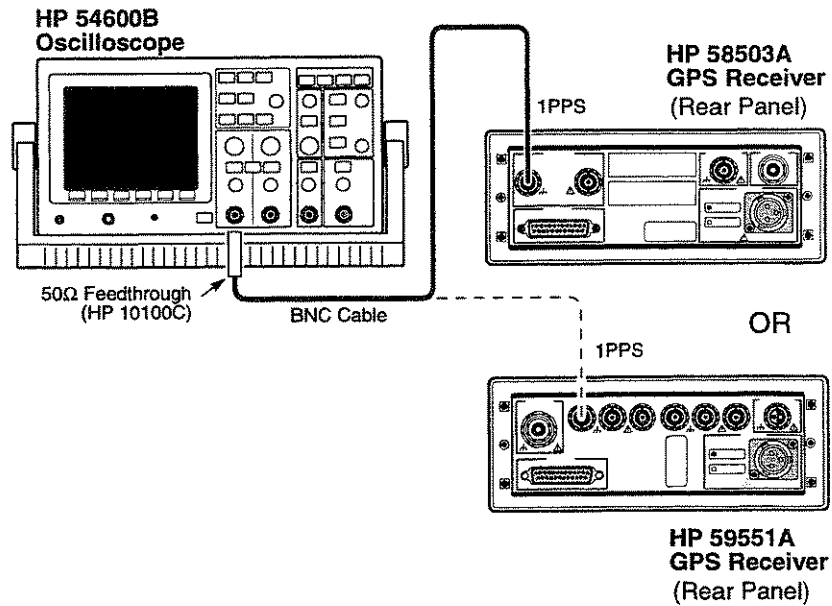

Figure 2. 1 PPS Operational Verification Setup
- 2 Connect the oscilloscope to the rear-panel 1 PPS output of the Receiver as shown in Figure 2.